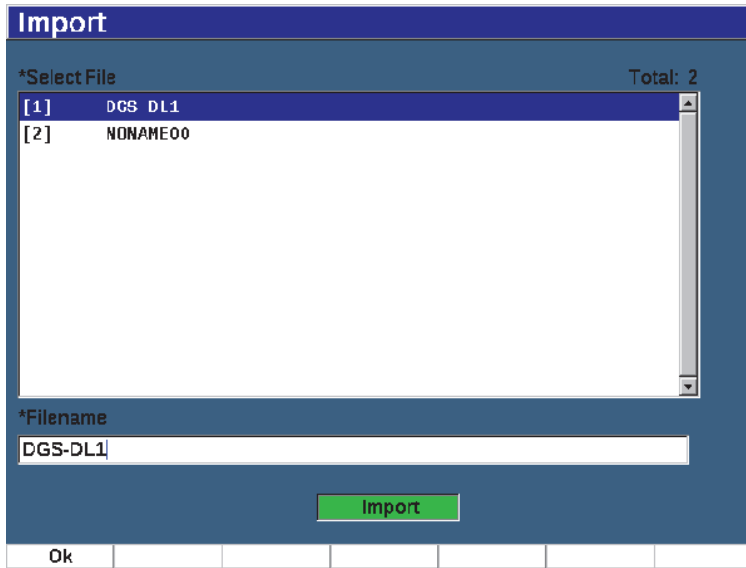

Figure 10-20 Import page
1. Choose **Import**, (P3 key) to display the **Import** page (see Figure 10-20 on page 224).